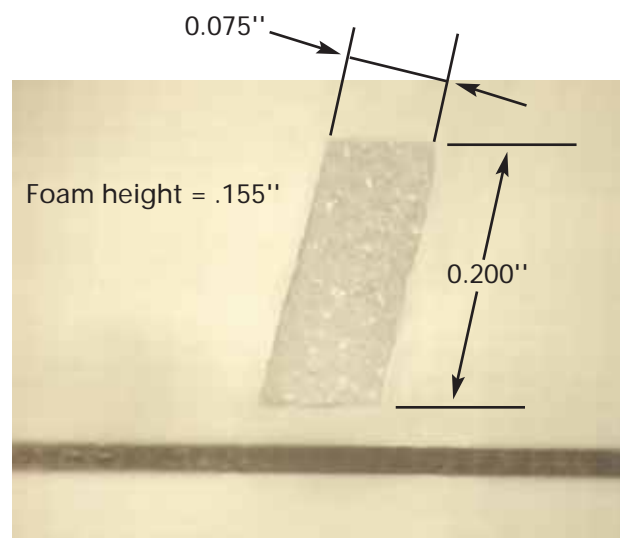

Figure 8: Dimensional details of foam
3. Obtain a sheet of C-stock RH-5, low loss structural foam from Cuming Microwave Corporation (Phone: 508-584-2309/ www.cumingcorp.com). Cut a small slice with a thickness of 0.075 inches. Using a sharp razor blade, form the parallelogram shown in Figure 8.